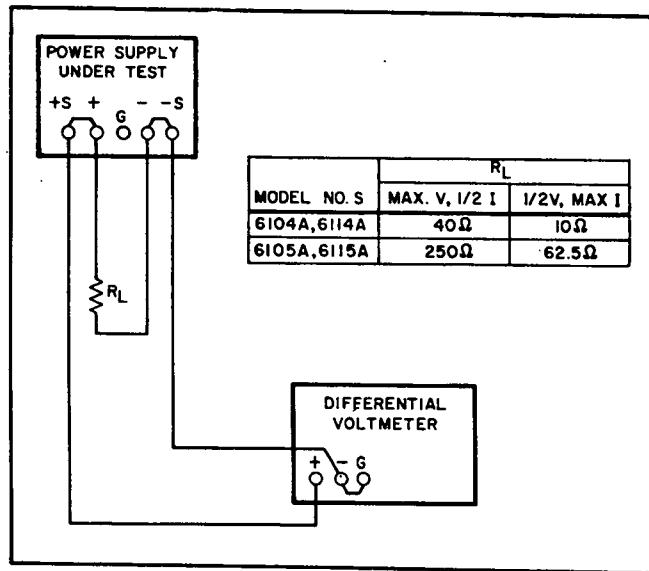

Figure 5-2. Constant Voltage Load Regulation Test Setup
- a. Connect load resistor (R_L) indicated in Figure 5-2 (maximum voltage, 1/2 maximum current) across output terminals of supply.
- a. Connect test setup shown in Figure 5-2.
- a. Connect test set up shown in Figure 5-2; select R_L as applicable for the voltage/current range being checked.
- a. Connect load resistance (full voltage/half current) and differential voltmeter as illustrated in Figure 5-2.
- Connect load resistance (full voltage/half current) and differential voltmeter as illustrated in Figure 5-2.